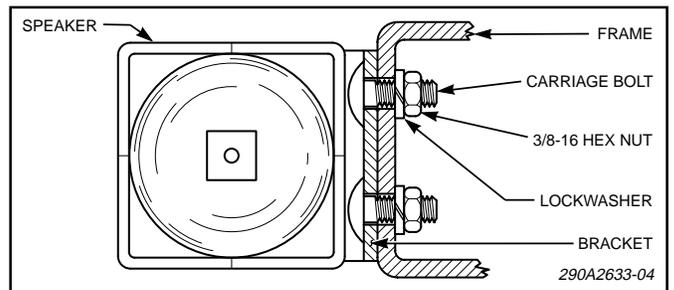

Figure 5.
7. Position the speaker and bracket assembly so that the carriage bolts are aligned with the previously drilled holes. Place the speaker assembly against the frame and secure in position using the 3/8" lockwashers and nuts as shown in figure 5.